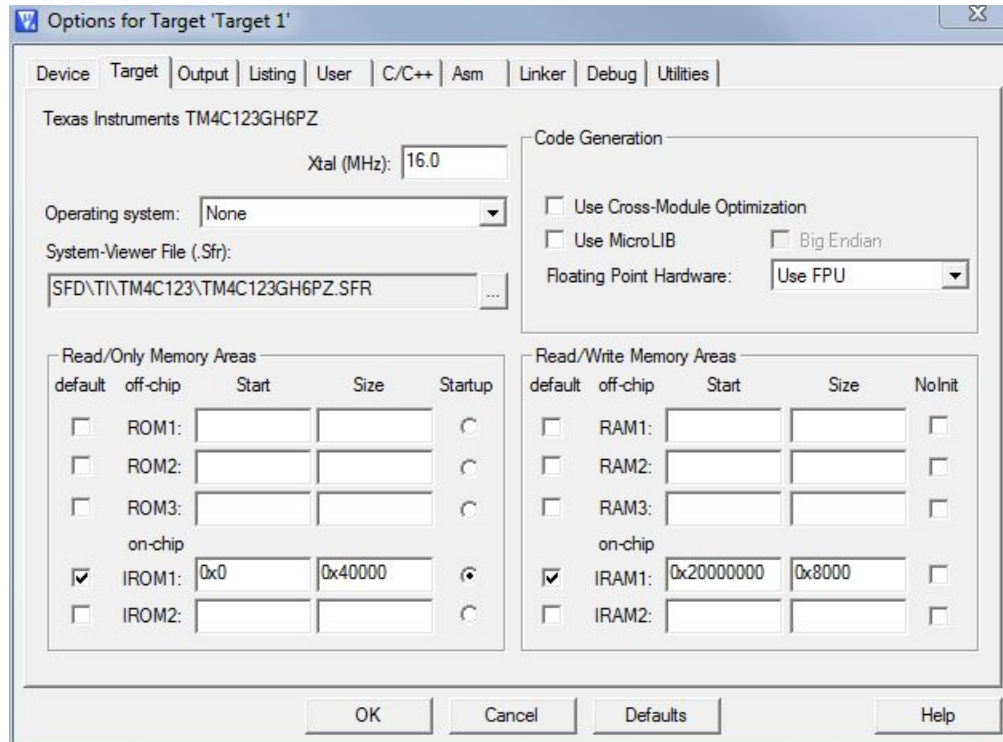
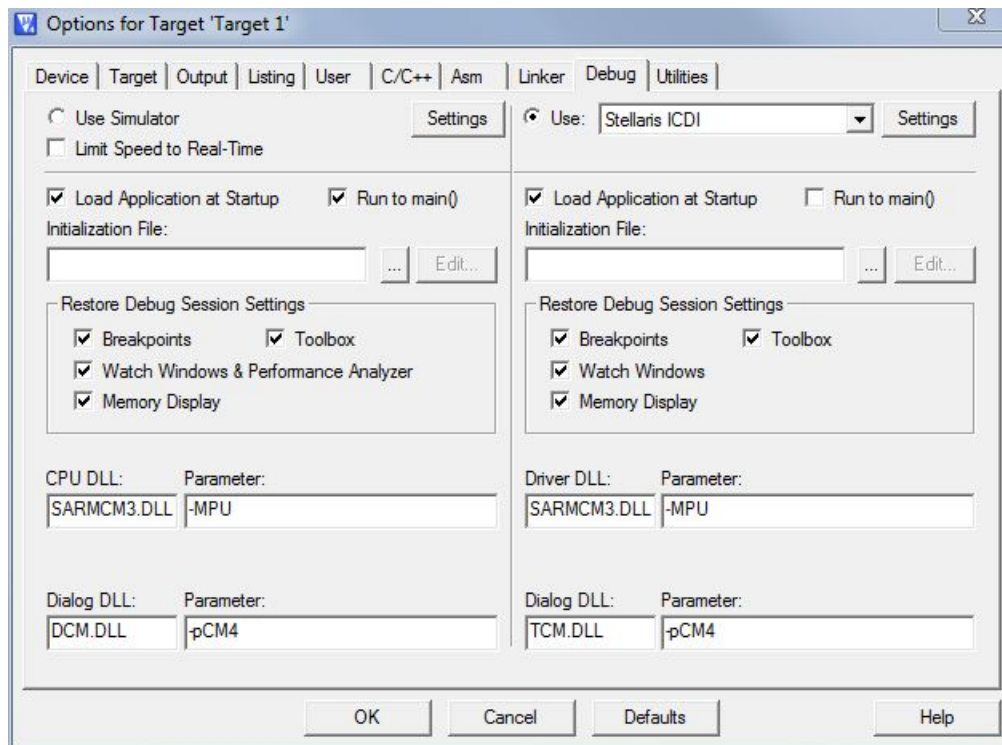

Figure 17.
Figure 18.
Go to Project → Options for Target 'Target 1.' The Options for Target 'Target 1' dialog box appears (see Figure 17).
1. In the same project options dialog shown in Figure 17, select the Debug tab (see Figure 18).
3. If you are using a Tiva C Series evaluation or development board as your ICDI, choose the Stellaris ICDI option from the drop-down box (see Figure 18).